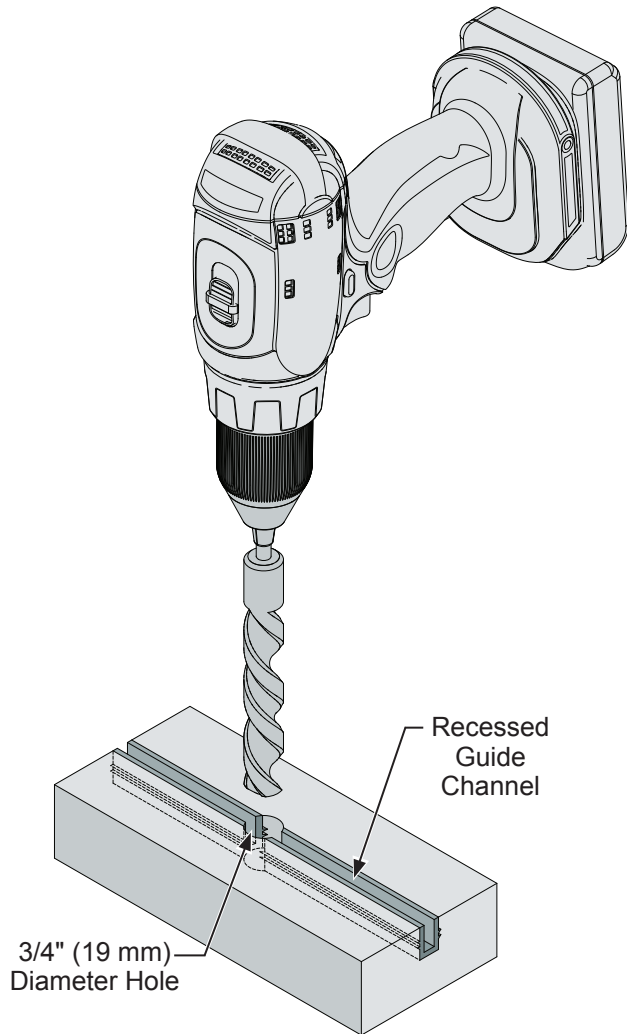
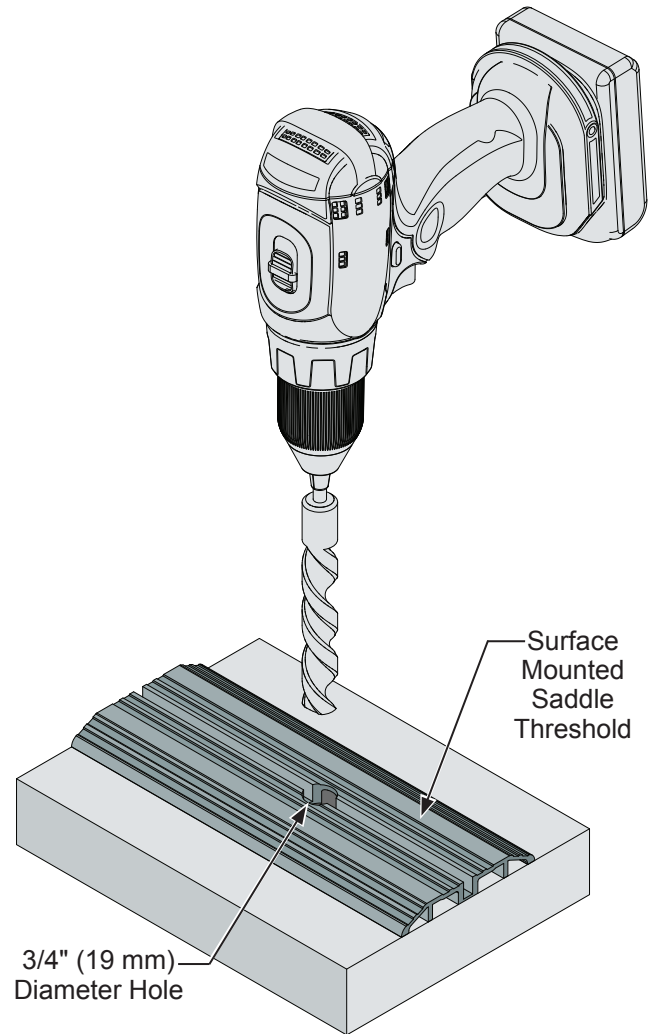

FIG. 12
FIG. 13
1. Slide the door into the closed position and mark the modified door lock location on the recessed guide channel (**Fig. 12**) or on the optional surface mounted saddle threshold. (**Fig. 13**) Slide the door to the side and drill a 3/4" (19 mm) hole to the appropriate depth.